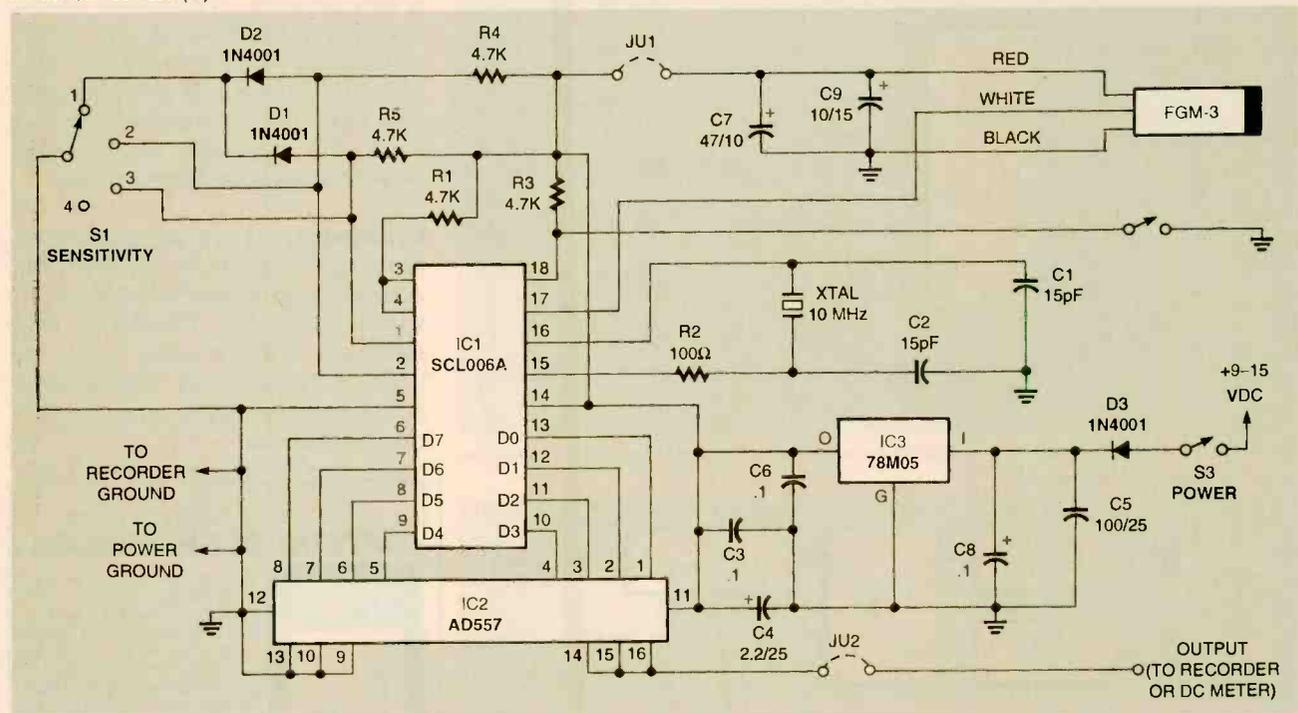
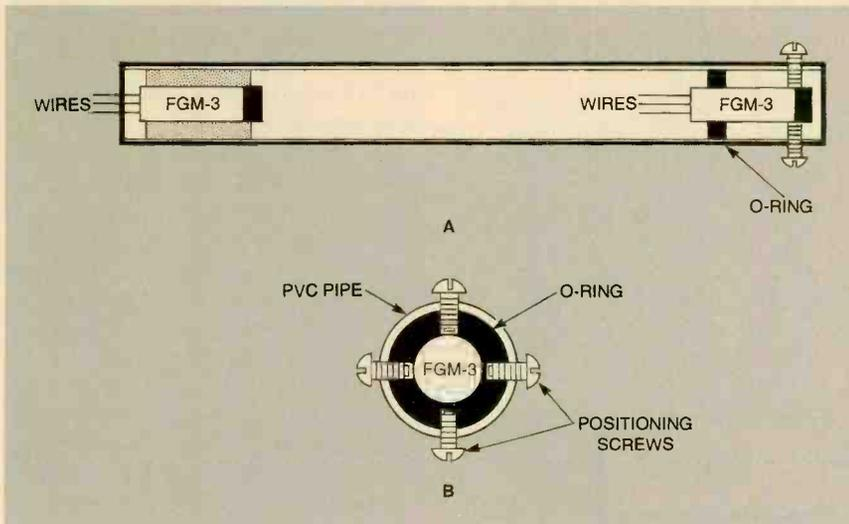
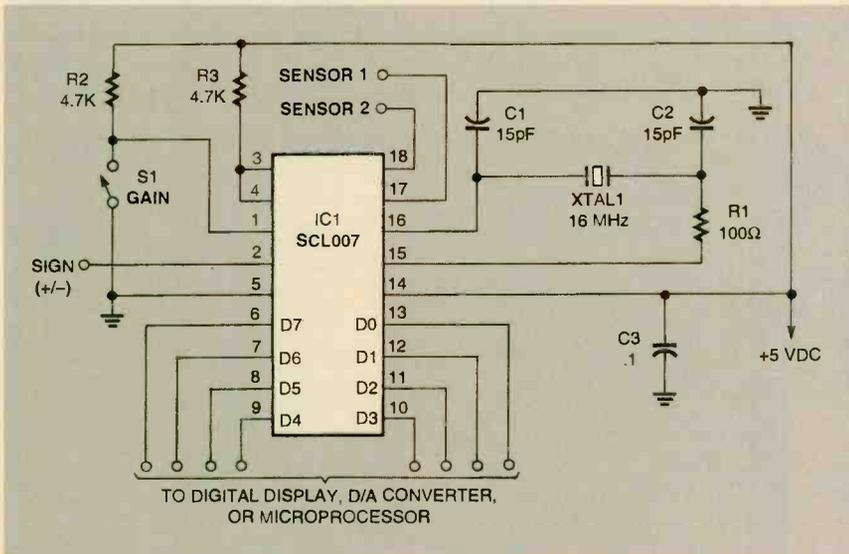

Fig. 5. Here's the circuit for a practical magnetometer. Most of the components needed and a PC board can be obtained from the source mentioned in the article.
Fig. 6. This two-sensor rig forms the heart of a practical gradiometer. It is easy to build and provides excellent results.
Fig. 7. Here's a circuit that converts the output of the gradiometer's sensors into a digital signal that is proportional to the field gradient.
**A Magnetometer Project.** Figure 5 shows the circuit for a simple magnetometer based on the FGM-3 flux-gate sensor. A PC board, the sensor, the ICs, and most other parts (but no power supply, enclosure, or switch S1) can be obtained from Fat Quarters Software (contact them directly or see their Web page for more information). That circuit takes the output frequency of the FGM-3, passes it through a special interface chip (IC1), and then to a digital-to-analog converter to produce a voltage output.
Figure 6 shows the construction details for a simple gradiometer based on the FGM-3 device. It is
A practical gradiometer can be built using a special interface chip by Speake, the SCL007 device. It is an 18-pin device that accepts the inputs from the two sensors, and produces an eight-bit digital output. The circuit is shown in Fig. 7. It can receive the signals from the sensors in Fig. 6, and produce a digital output proportional to the field gradient. If you want a DC output, the same sort of D/A converter used in the magnetometer of Fig. 5 can also be used for the gradiometer.